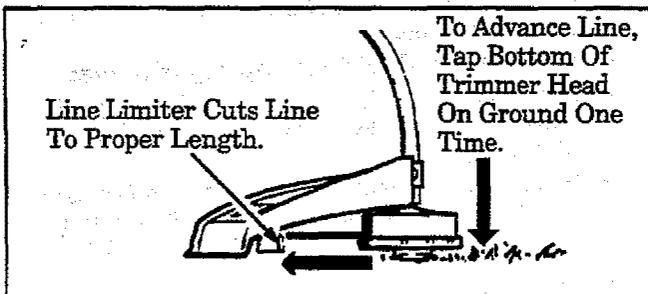

Figure 10
- Always keep the shield in place when the tool is being operated. Figure 10.
- Tap the bottom of the trimmer head lightly on the ground one time. See Figure 10. Approximately 2 inches of line will be advanced with each tap.